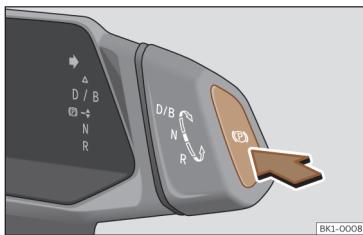

Fig. 147 On the gear selector: electronic parking brake button.
- While the vehicle is stationary, press the button  >>> **Fig. 147**.
- Press the button  >>> **Fig. 147**. The electronic parking brake is activated.